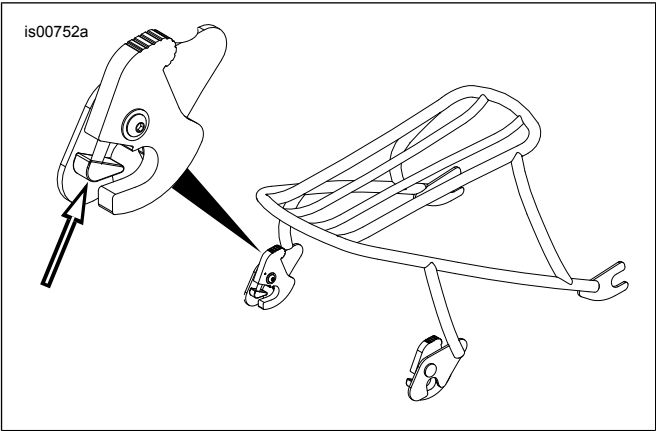

Figure 3. Press release button and pull lever back
See Figure 3 and Table 1.
7. See Figure 3. To remove the rack, press the release button. Pull the rotary latch lever back. Carefully lift the rear of the rack up. Pull the rack out of the front docking points.